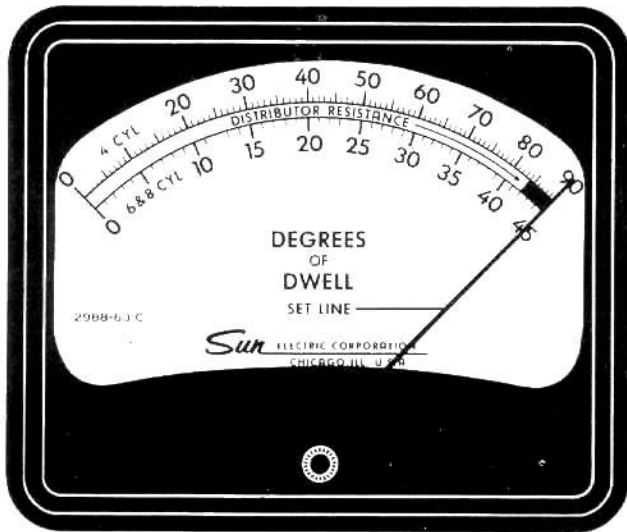

Figure 1
2. Set tach-dwell selector switch to calibrate position and adjust dwell regulator until dwell meter reads on the Set Line. See Figure 1.